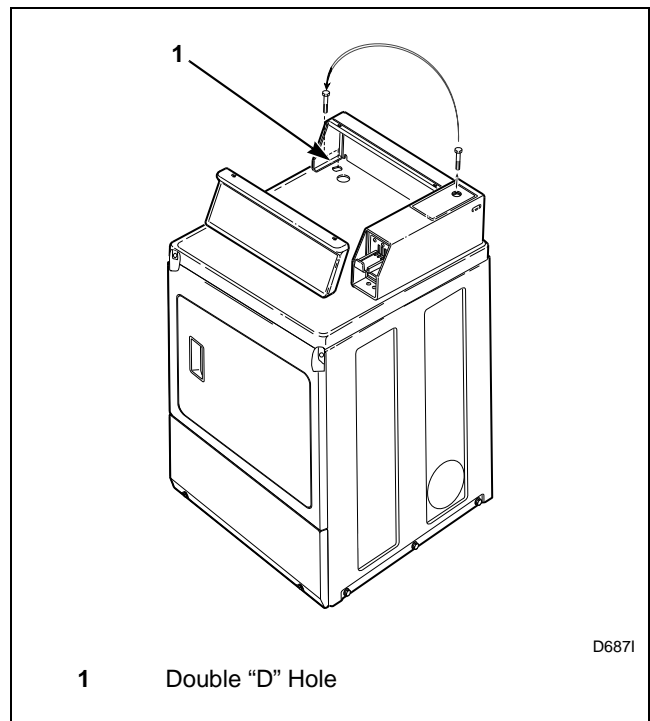

Figure 34
1. Remove the Phillips head screw from service door. (Refer to *Figure 34*.)